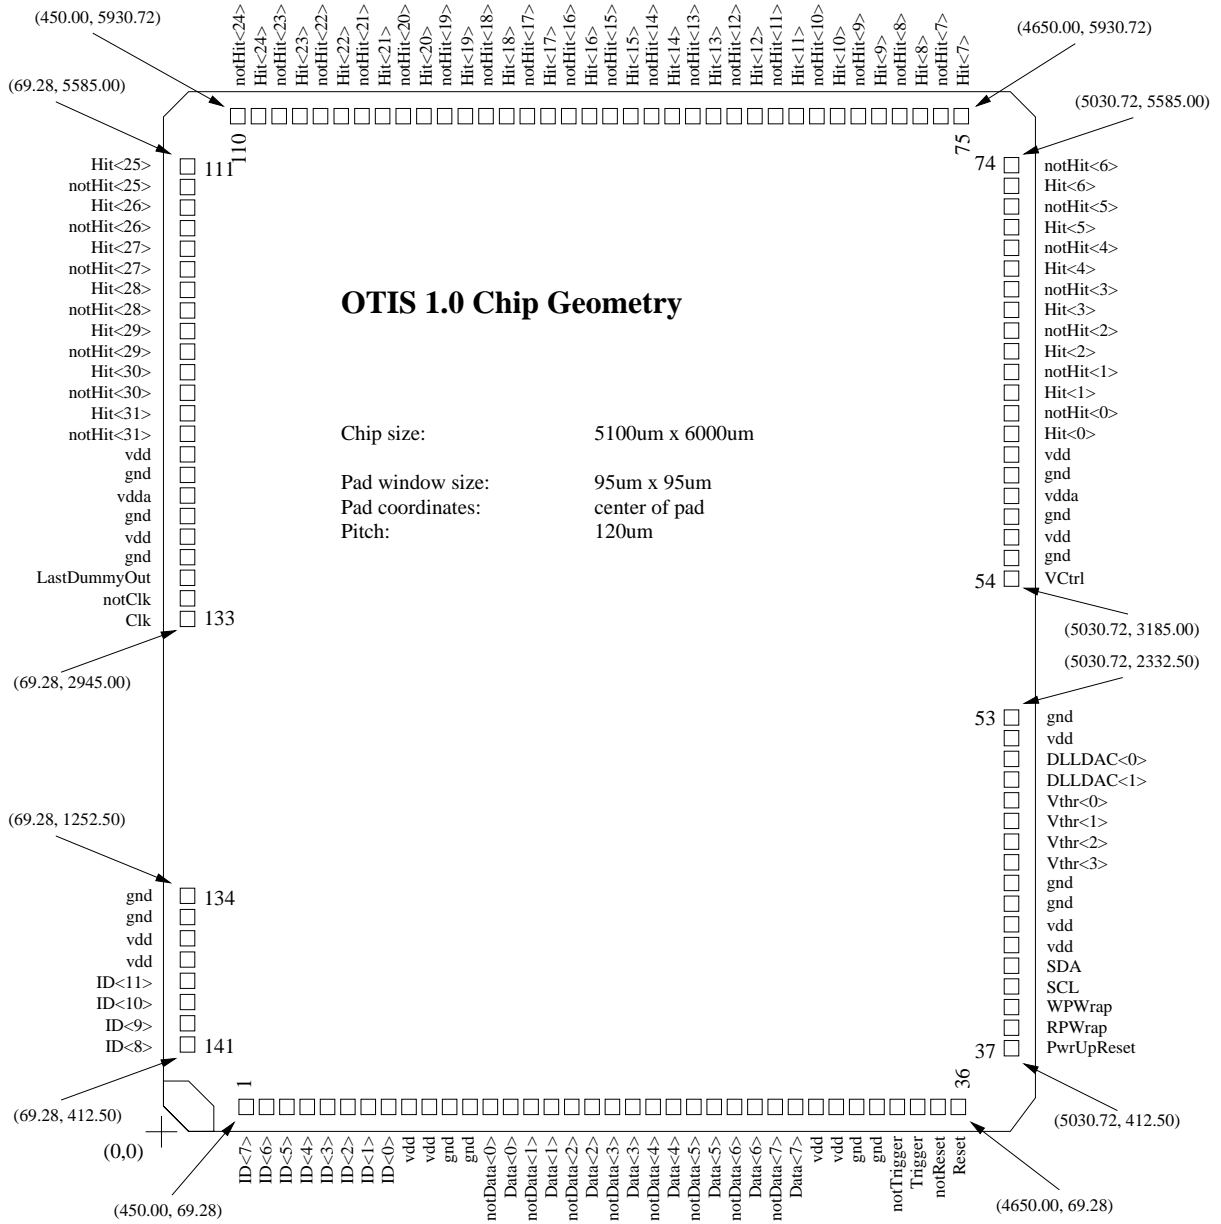

Figure 7: *OTIS 1.0* Pad Positions
*OTIS 1.0* : If the pad number 37 (see figure 7 and table 10) is coupled capacitively (10 - 100nF) to **gnd** , the chip performs a power up reset. Within this power up reset all status and configuration registers are set to 0 and the I2C-interface is set into the idle state, thus the chip is ready for programming. The duration of the power up reset varies with the capacity connected to the **PwrUpReset** pad.